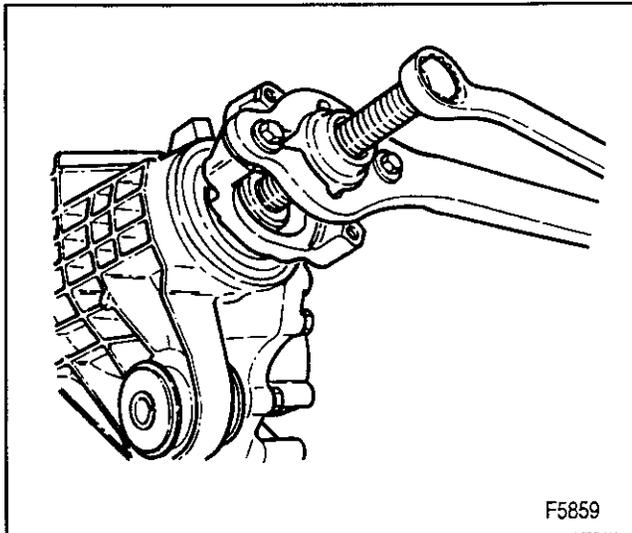

Figure 28—Removing/Installing the Pinion Flange
3. Flange using J 8614-01 (figure 28).
→← Install or Connect (Figures 28 and 29)
3. Flange onto the pinion using J 8614-01 (figure 28).